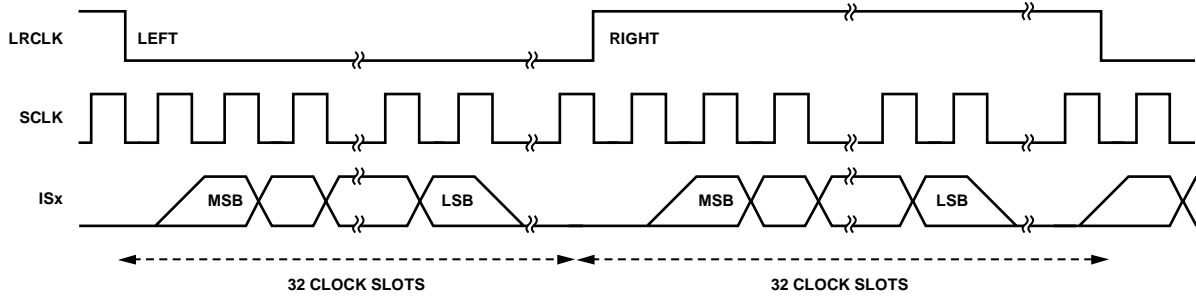
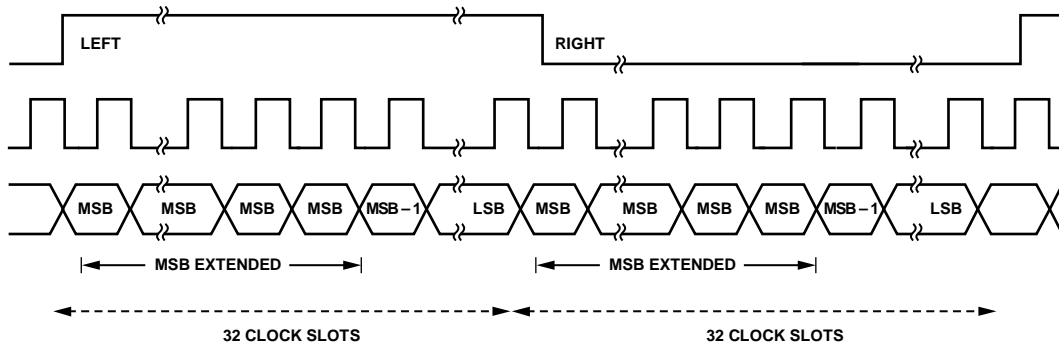
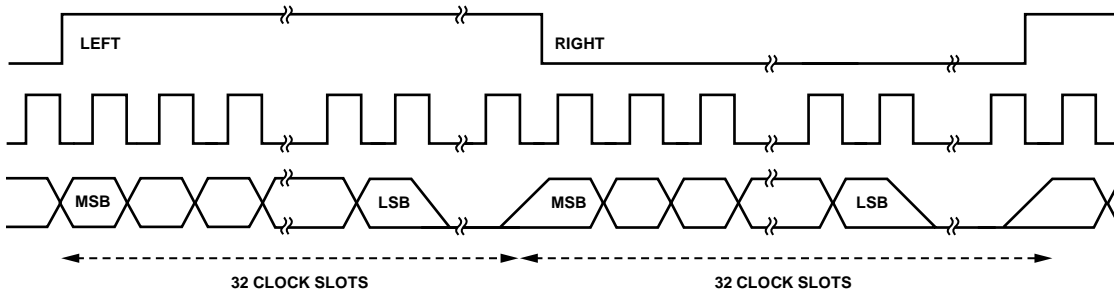

Figure 19. Timing Audio Data Output in I2S Mode
Figure 20. Timing Audio Data Output in Right Justified Mode
Figure 21. Timing Audio Data Output in Left Justified Mode
- L-PCM audio data is output on the audio output pins if the part received audio sample packets with L-PCM encoded audio data. Each audio output pin carries stereo data that can be output in I2S, right justified, or left justified mode (refer to Figure 19, Figure 20, and Figure 21). The **I2SOUTMODE[1:0]** control must be set to 0x0, 0x01 or 0x2 to output I2S, right justified, and left justified respectively on the audio output pins.
- I2SOUTMODE must be set to 0x0, 0x01, or 0x2 for I2S, right justified, and left justified format, respectively (refer to Figure 19, Figure 20, and Figure 21).
- **OVR\_MUX\_HBR** is set to 1, **MUX\_HBR\_OUT** is set to 0, and **I2SOUTMODE[1:0]** is set to 0x0 for an I2S mode binary stream (refer to Figure 19).
- **OVR\_MUX\_HBR** is set to 1, **MUX\_HBR\_OUT** is set to 0, and **I2SOUTMODE[1:0]** is set to 0x1 for a right justified stream (refer to Figure 20).
- **OVR\_MUX\_HBR** is set to 1, **MUX\_HBR\_OUT** is set to 0, and **I2SOUTMODE[1:0]** is set to 0x2 for a left justified stream (refer to Figure 21).